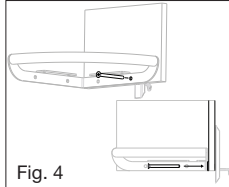

Fig. 4
13. As you hold the flange and apply pressure to the bar by pulling outward, insert a 3" machine screw into the hole of the Assist Bar Shelf bracket and then the center hole of the flange. Next align the machine screw with the threaded insert in the bar and tighten enough to keep the bar upright. **DO NOT COMPLETELY TIGHTEN.** **(Fig. 4)**